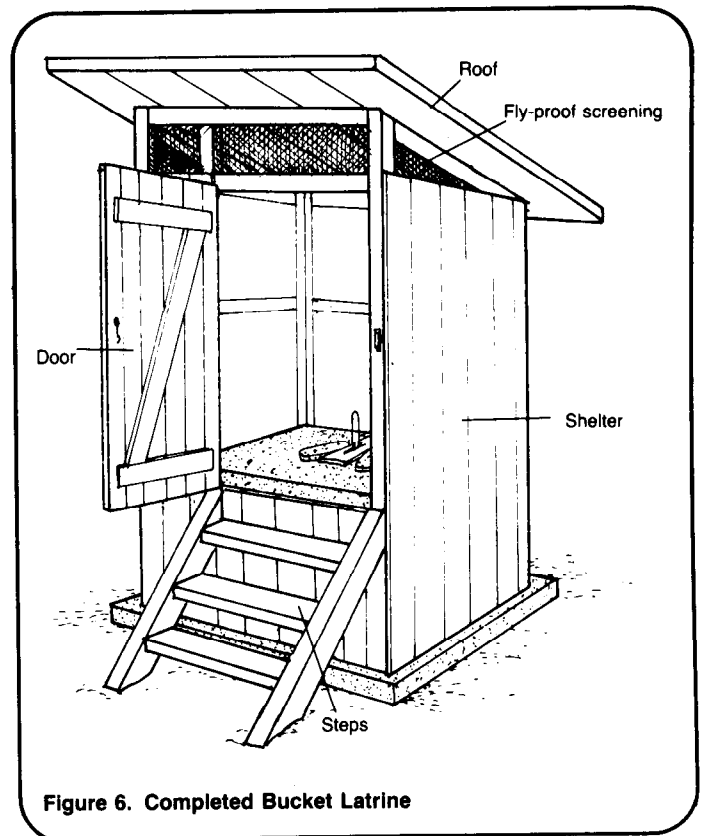

Figure 6. Completed Bucket Latrine
13. Build a shelter as shown in Figure 6. See "Constructing Privy Shelters," SAN.1.C.3.